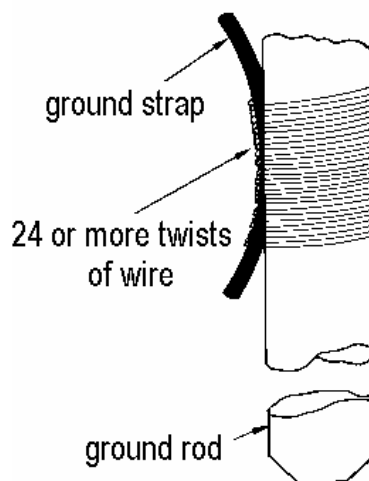

Figure 4 - Temporary Connection
5) Never twist or tie a ground wire around a ground rod. If a bolt is not provided and a clamp is not available, the ground strap should be bound to the ground rod with at least 24 tightly wound turns of stripped telephone wire or other bare wire (see figure 4). This connection should then be taped to block out moisture. Use this method for a temporary connection until you can find a clamp.